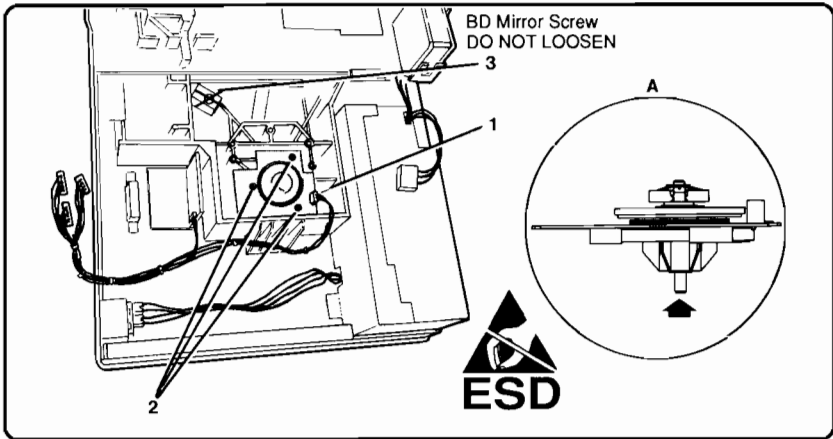

Figure 6-50. Scanner Motor Assembly Removal
- **Do not** set the Scanner Motor Shaft on a hard surface, or it can be damaged (see Figure 6-50, detail A)
- **Do not** loosen the BD Mirror screw. The mirror requires factory alignment. If this screw is loosened the printer **must** be replaced (see Figure 6-50, callout 3).
8. Unplug connector J301 from the Scanner Motor PCA (see Figure 6-50, callout 1).
9. Remove the long screws (3) securing the Scanner Motor PCA to the printer (Figure 6-50, callout 2), then remove the assembly.